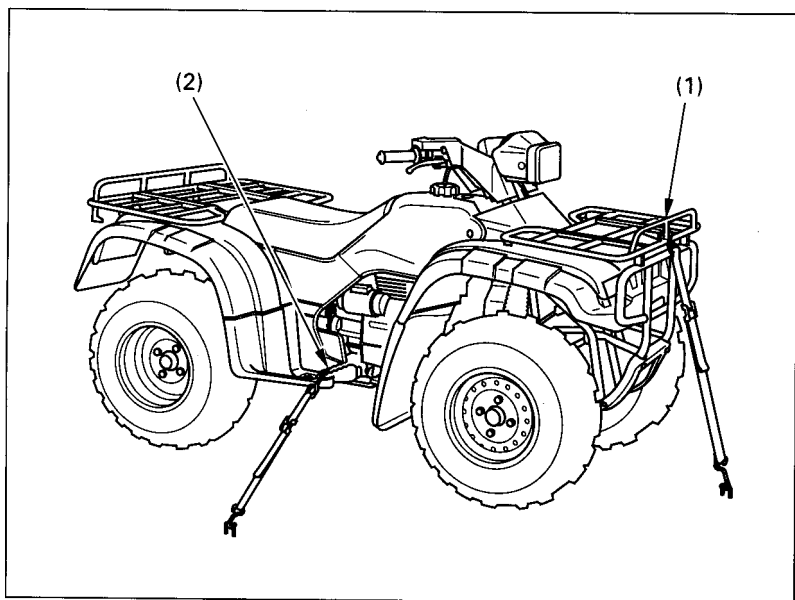

Fig. 4-40 Points to secure FOURTRAX with tie downs
3. Secure the vehicle with "tie downs" in the areas shown (Fig. 4-40). Suitable "tie downs" are available from your Honda dealer. Ordinary rope is not recommended because it can stretch under load.